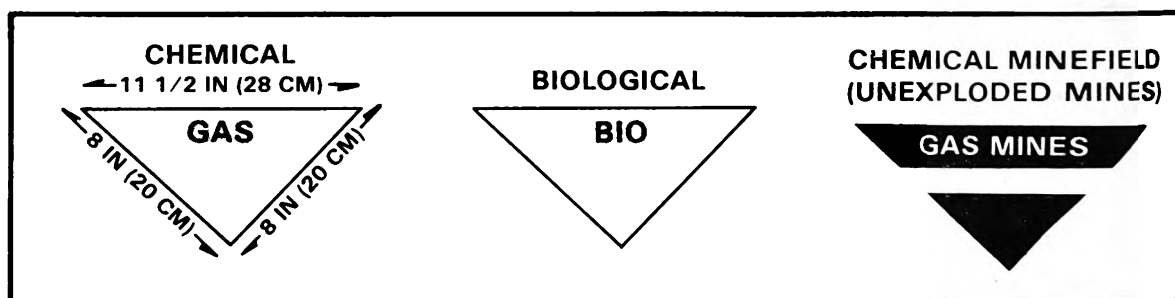

Figure 1.
3. In some cases, you will encounter a contaminated area which has been marked. You should mask immediately. Standard NATO CB markers are pictured in figure 1.